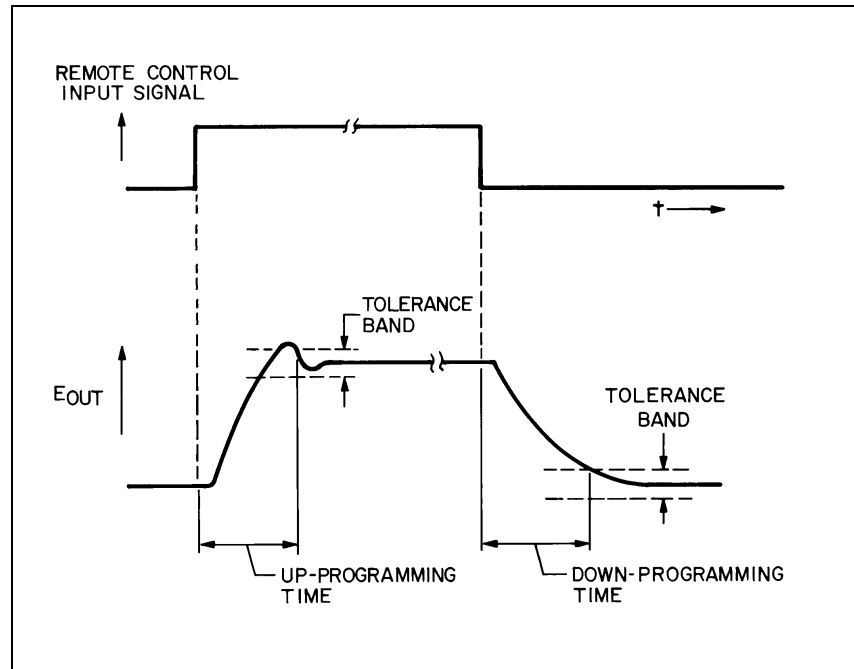

Figure 78. Typical Programming Speed Waveforms
Figure 78 illustrates the programming speed relationship between the remote programming control input (RP)